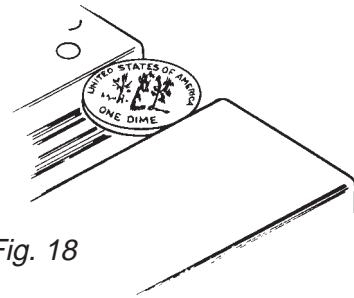

Fig. 18
1. Check for proper door gasket seal by placing an American dime between the inside of the door and the cabinet. The gap should not be less than, or greater, than then diameter of the dime (11/16"). (Fig. 18)